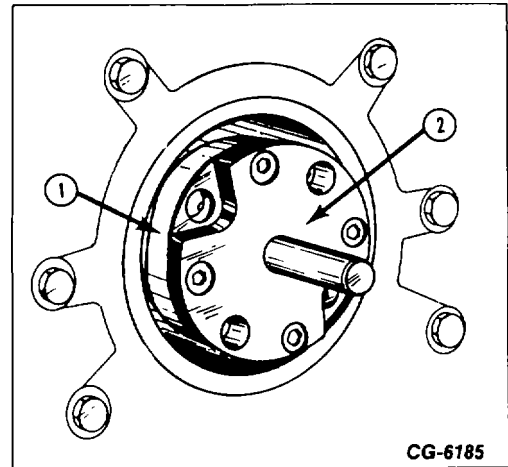

Figure 33. - Installing Oil Seal and Wear Sleeve
- g. Attach the centering plate (2, Fig.33) to the crankshaft flange (1) using the four alien head screws. DO NOT tighten the screws at this time.